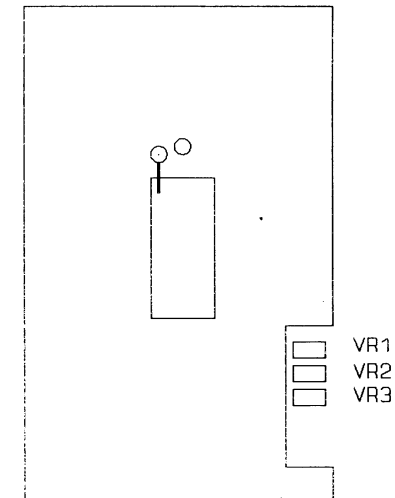

Fig.1 Position of VR1, VR2, VR3. CW for increase, CCW for decrease-
5. After entering the voltage level and then pressing enter, the entered voltage level should be verified on multimeter. If there are any deviations, the VCC DAC adjustment screw (VR1) should be adjusted accordingly. Please remove the cover of PC-UPROG programmer unit and turn VR1 clockwise to increase DAC's voltage or counter-clockwise to decrease. Please refer to Fig. 1. The VR1, VR2, VR3 position.
5. After entering the voltage level 25Volts and then pressing enter, the entered voltage level should be verified on multimeter. If there are any deviations, the VPP1 DAC adjustment screw (VR2) should be adjusted accordingly. Please remove the cover of PC-UPROG programmer unit and turn VR2 clockwise to increase DAC's voltage or counter-clockwise to decrease. Please refer to Fig. 1. The VR1, VR2, VR3 position.
5. After entering the voltage level 25Volts and then pressing enter, the entered voltage level should be verified on multimeter. If there are any deviations, the VPP2 DAC adjustment screw (VR3) should be adjusted accordingly. Please remove the cover of PC-UPROG programmer unit and turn VR3 clockwise to increase DAC's voltage or counter-clockwise to decrease. Please refer to Fig. 1. The VR1, VR2, VR3 position.